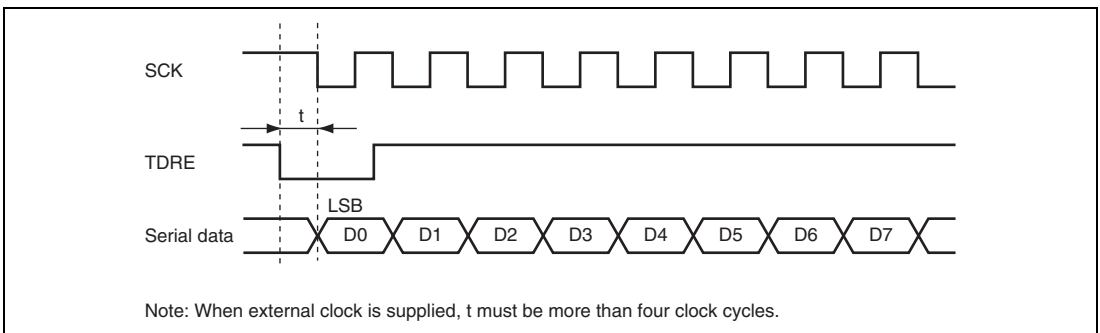

Figure 14.33 Sample Transmission using DTC in Clocked Synchronous Mode
1. When the external clock source is used as a synchronization clock, update TDR by the DMAC or DTC and wait for at least five P ϕ clock cycles before allowing the transmit clock to be input. If the transmit clock is input within four clock cycles after TDR modification, the SCI may malfunction (figure 14.33).